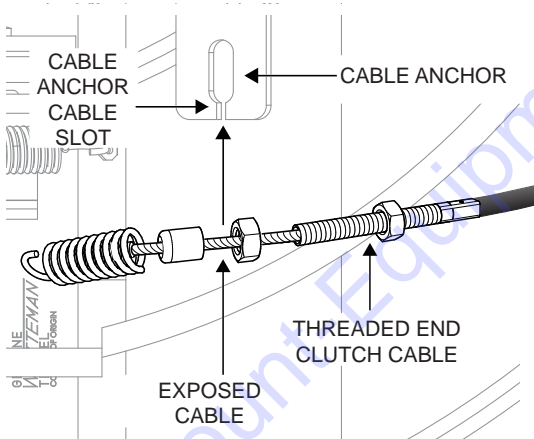

Figure 18. Inserting Clutch Cable Into Cable Anchor
- Insert the exposed cable (Figure 18) into the cable slot on the cable anchor.